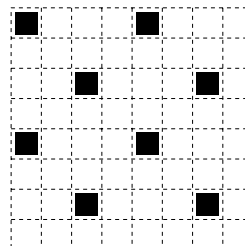

Figure 3 Halftone 1 Pattern
- 6: Halftone pattern : same as Figure 3
- 3: Halftone 1 pattern (The Figure 3 is repeated.)